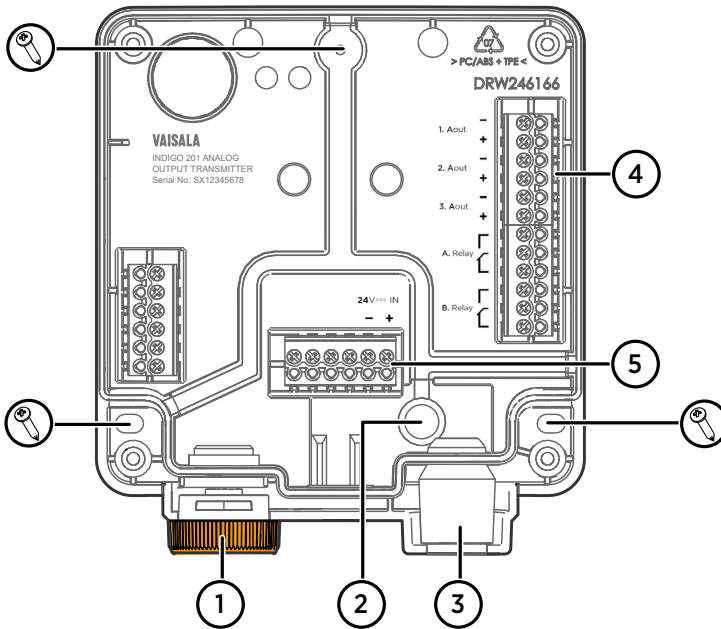

Figure 6 Indigo 201 transmitter base main parts and mounting screw positions
5. Place the transmitter base on the installation surface and mount it with 3 screws. See the screw positions in Figure 6 \(page 16\).